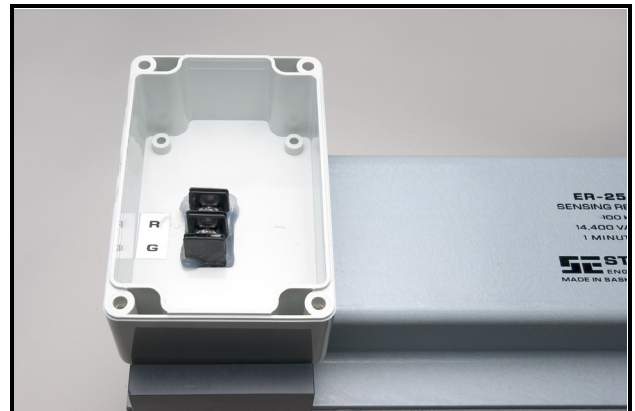

FIGURE 4
4. Place the junction box base on the top of the sensing resistor so that the terminal block protrudes through the rectangular opening in the bottom of the box as shown in Figure 4.